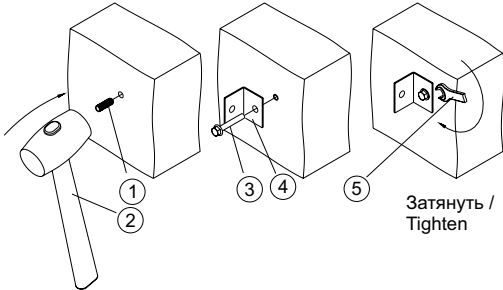

Рисунок A.2 / Figure A.1
1.2.3.8 Mounting of steel and brass anchors (figure A.2)